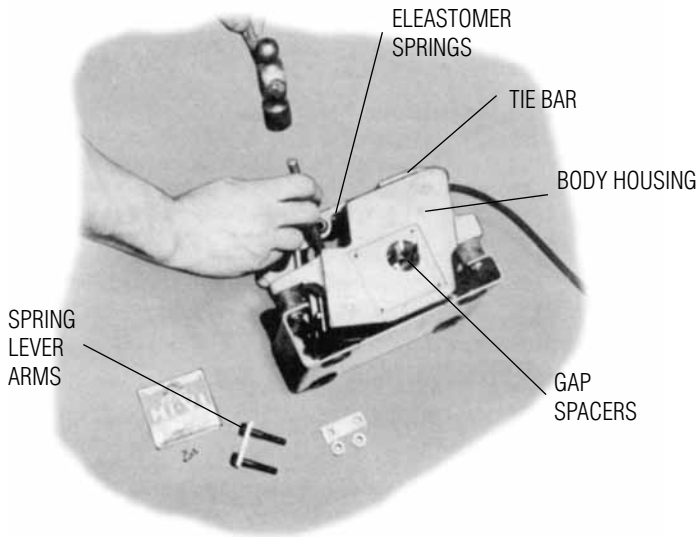

FIGURE 11
1. Lay the unit on its side, making sure that the gap spacers stay in place, and use a small hammer and flat ended round bar or dowel to tap the elastomer spring out of the body housing. Next, support the tiebar with a small block between the tiebar and work surface, and tap the spring out of the tiebar (See FIGURE 11).